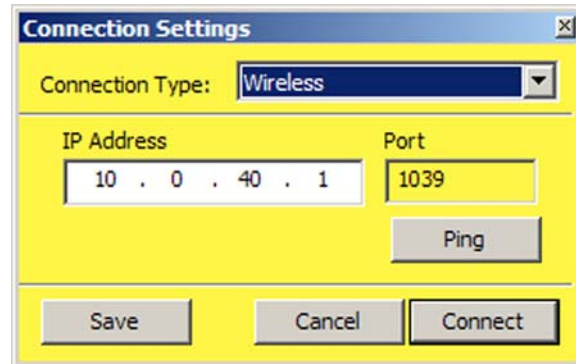

Figure 69: Connection Settings window
1. From the Controller interface, select **File > Connect**. The Connection Settings window appears (Figure 69).